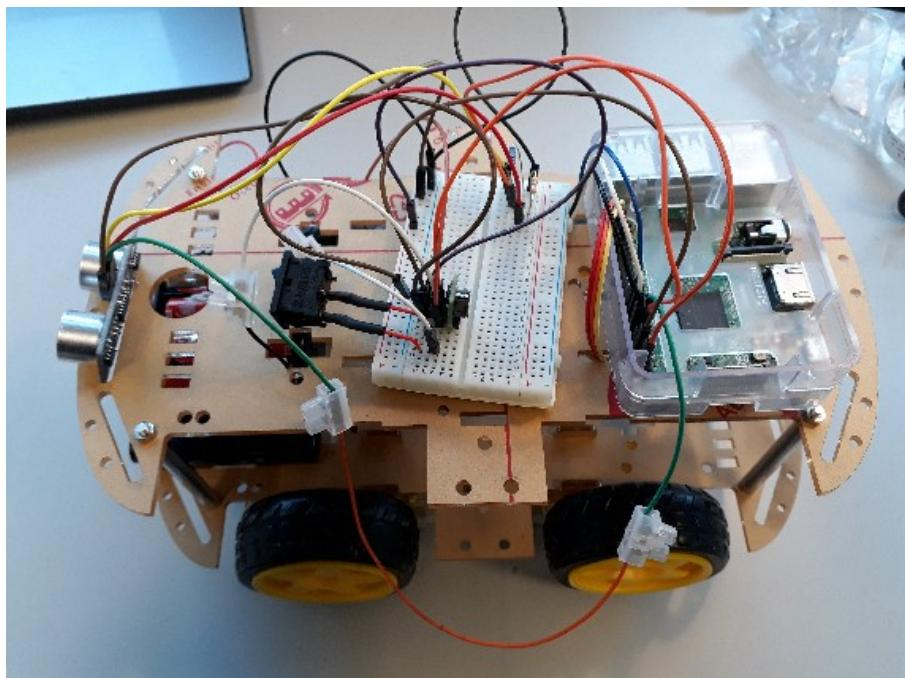
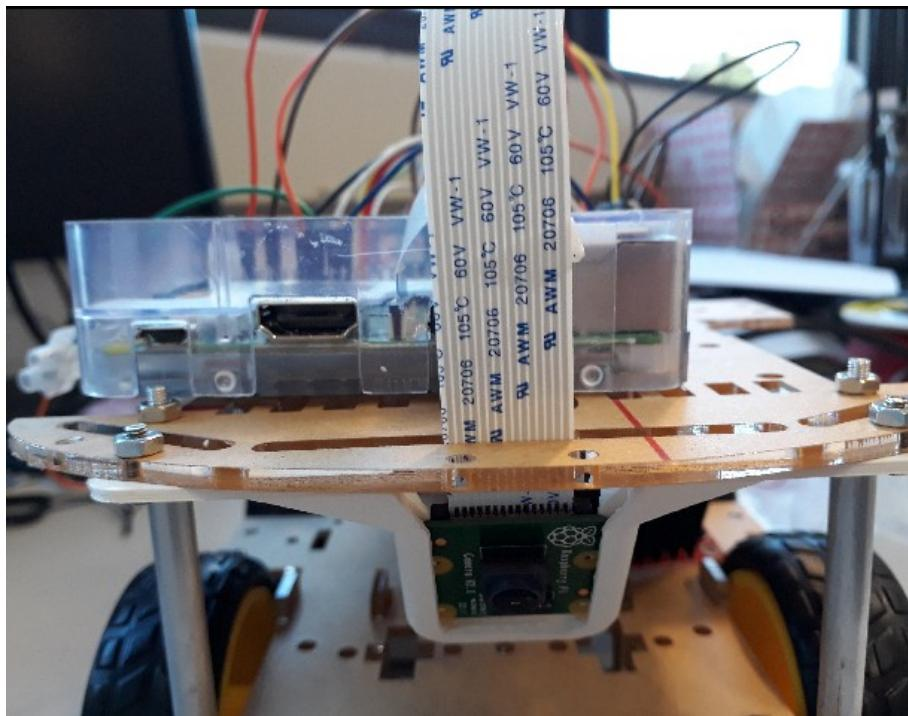

Figure 30: Image of how the buggy should look once fully wired.
Figure 32: Camera board in the mount, attached to the underside of the top plate
Step 10: With the pi camera connected, you can now place it inside the camera mount as is shown in figure 32. The camera mount can then be attached to the raspberry pi using the M3 bolts and nuts, as can be seen in figures 30 and 31.